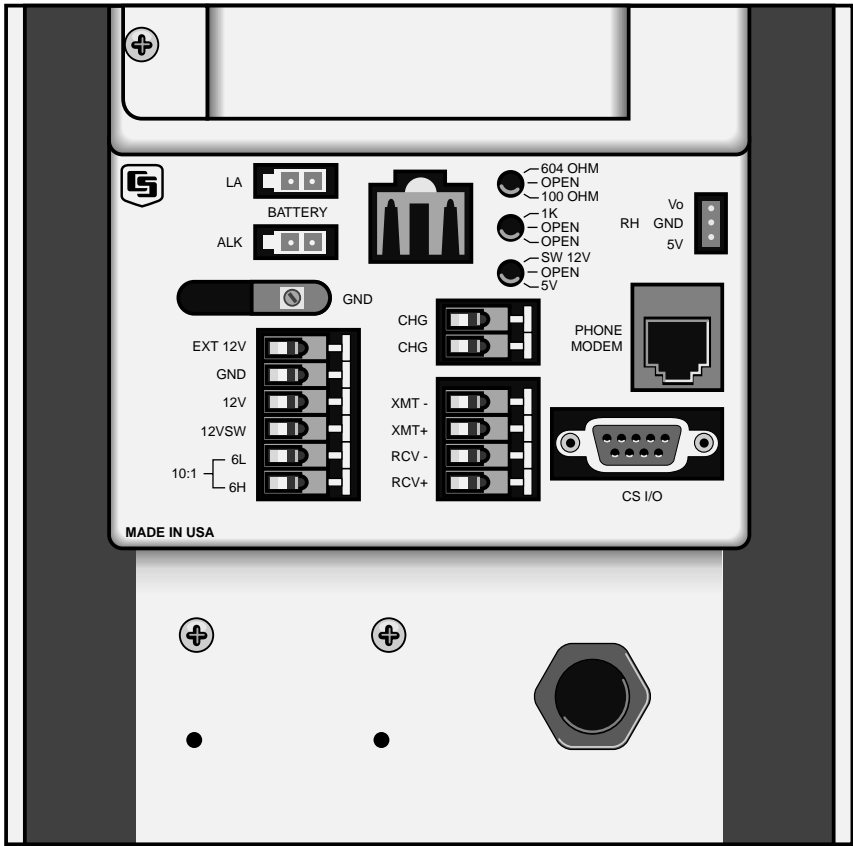

FIGURE 6.2-2. T.Weather 106 Terminal Blocks and Sensor Switch Settings
2. The area in the middle of the enclosure where the terminal blocks, enclosure RH chip, and the serial/phone jacks reside (see Figure 6.2-2).